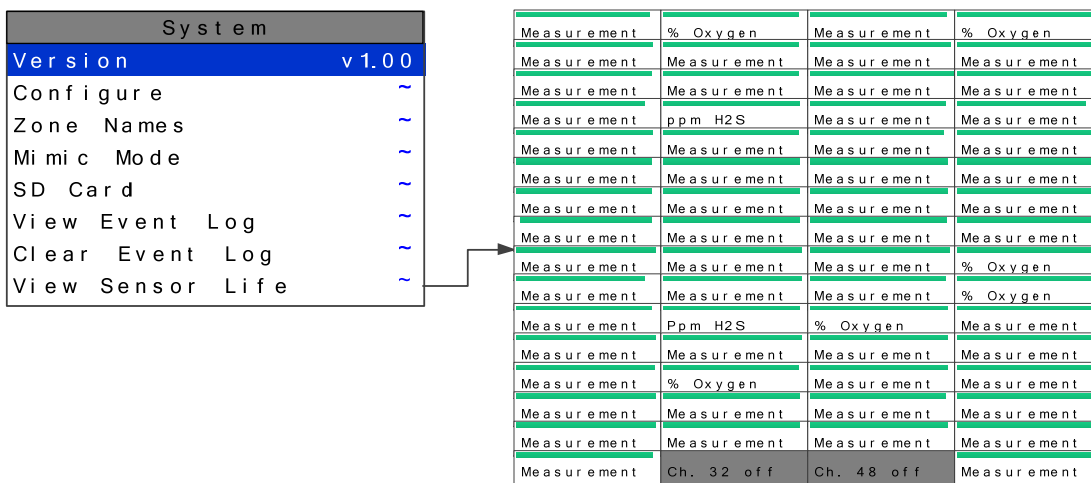

Figure 2-37
**Sensor Life** is available when at least one channel has **Sensor Life** activated in the **Marker menu** (see section 2.4.4.5). The **Sensor Info** screen displays each channel's sensor status as illustrated in Figure 2-37. Channels with **Sensor Life** disabled are indicated by **Ch. # Disabled** below the bar. **Cal Required** indicates no Calibration Marker value has been received by the MODEL 7200.